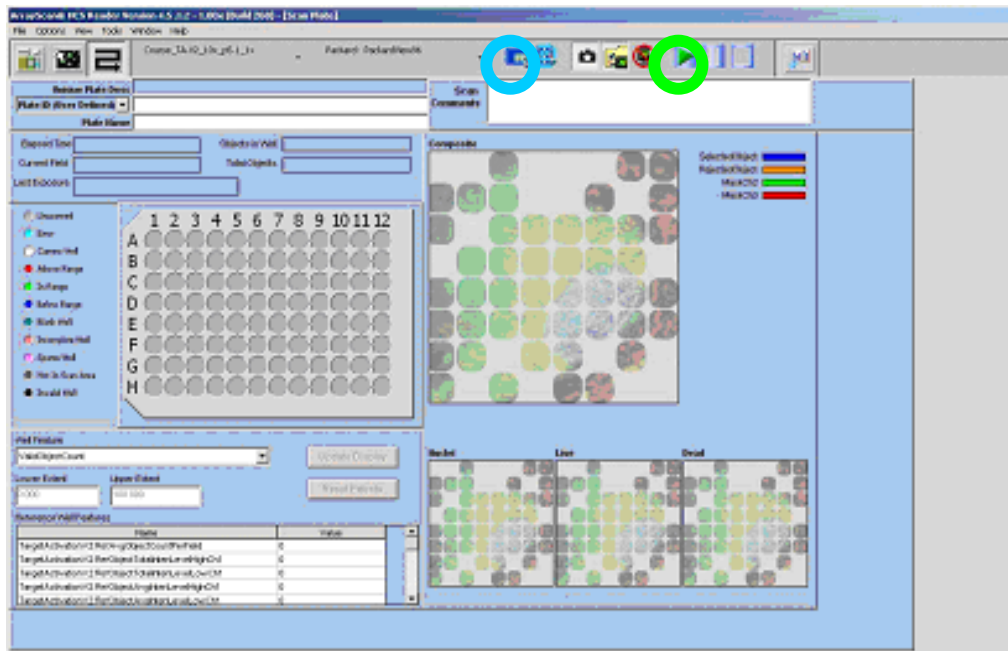

Figure 5. Scan Plate window
11. Selection of the scan area. Give a name for your scan by writing the name in the text box next to Plate ID. Click on the blue icon to set the scan area (blue circle in Fig. 5). Select wells E8, E9, F8, F9 for the scan area by dragging the mouse over selection. Selected wells are shown in gray (the yellow highlight just indicates the current cursor position, not selection). Click ok.
12. Scanning your sample. Click the Scan button (green circle in Fig. 5). The scanning should start (click ok for the two warnings that will pop-up).